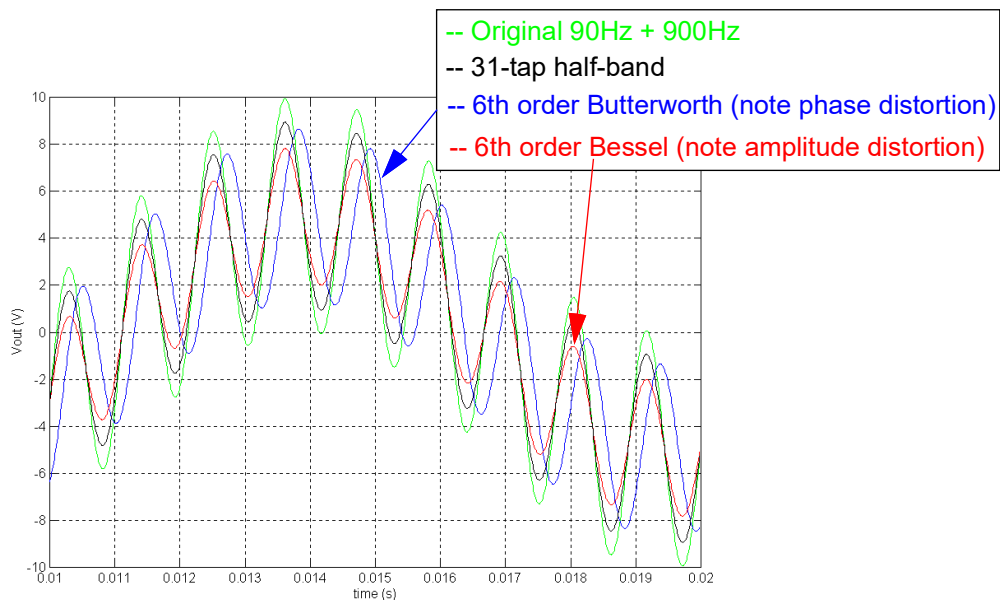

Figure 14-12: A sum of 90 Hz and 900 Hz components passed through a half-band, Butterworth and Bessel filter
- Butterworth filters have strong attenuation in the stop-band and little attenuation in the pass-band. However, signal delay varies with frequency thus causing shape distortion. See Figure 14-12 on page 63.
- Bessel filters have less delay distortion than any analog filter. However, they have weak attenuation in the stop-band and significant attenuation in the pass-band. See Figure 14-12 on page 63.